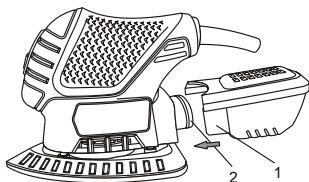

Fig. 1
Insert the dust duct box assembly (1) onto the dust chute (2) (Fig. 1).